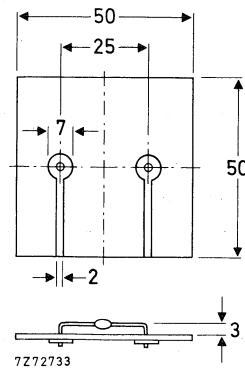

Fig. 2 Mounted on a printed-circuit board.
2. Thermal resistance from junction to ambient when mounted on a 1,5 mm thick epoxy-glass printed-circuit board; Cu-thickness  $\geq 40\ \mu\text{m}$ ; Fig. 2 (see "Thermal model")